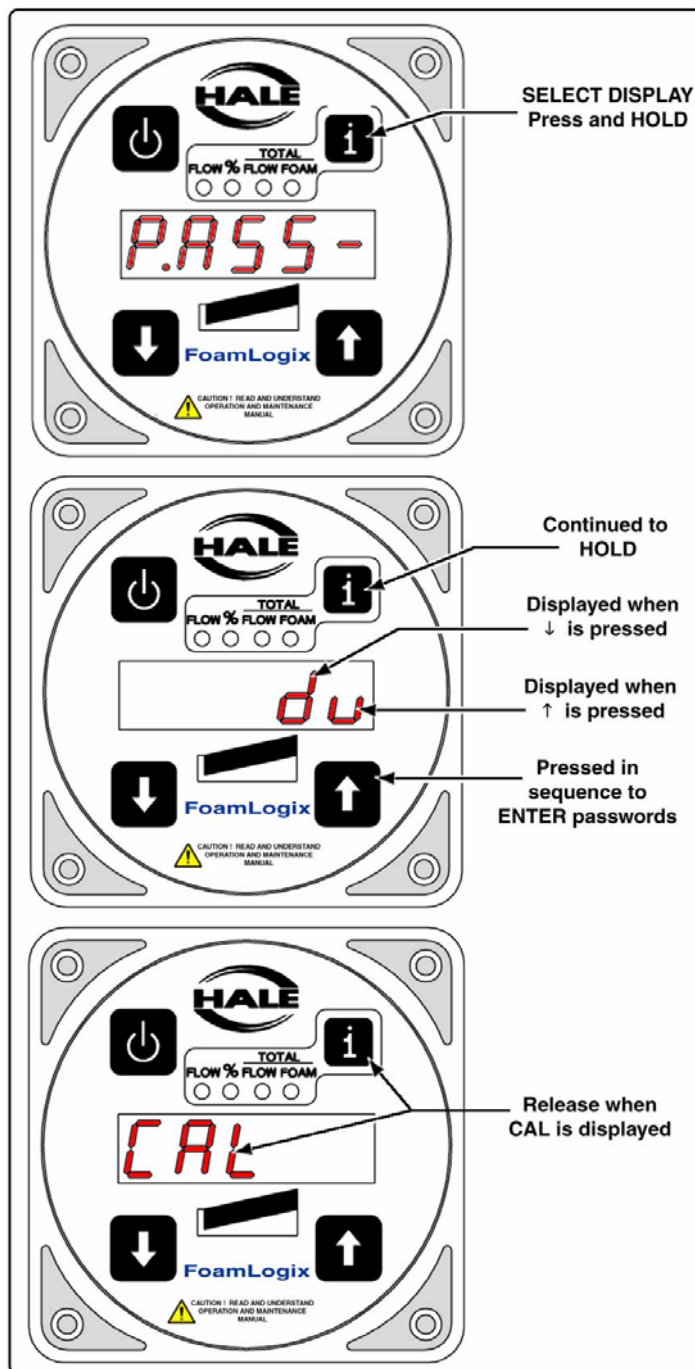

Figure 4-4: Password and Calibration Modes - Display
(See Figure 4-4: “Password and Calibration Modes - Display.”)
3. The display shows **CAL** for several seconds, followed by **CO** (or **LO** when display is set to metric). (See Figure 4-4: “Password and Calibration Modes - Display” on page 115.)